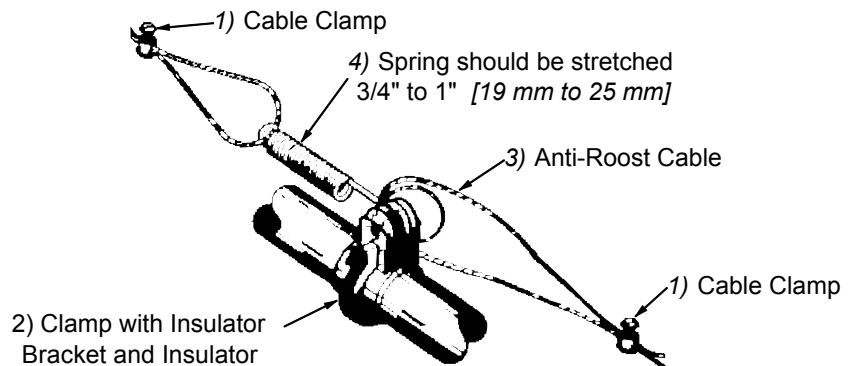

Figure 50. Anti-Roost Cable Intermediate Connection
4. Attach a spring in the center groove at the second anti-roost bracket and cut the cable at this point. See **Figure 50**.
5. Thread the ends of the cable through the end of the spring. Pull the cable tight so that there is 3/4" to 1" [20 to 25 mm] of stretch in the spring. Clamp the cable to form a loop and cut off any excess. See **Figure 50**.
6. Attach the cable to the insulator. For best results, make a double loop around the anti-roost insulator in the center groove of the insulator and fasten with a 1/16" cable clamp as shown in **Figure 50**.